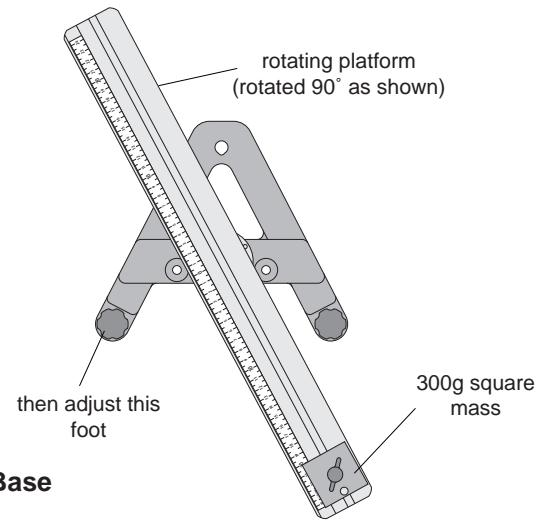

Figure 2: Leveling the Base
- ② Adjust the leveling screw on one of the legs of the base until the end of the track with the square mass is aligned over the leveling screw on the other leg of the base. See Figure 2.
- ③ Rotate the track 90 degrees so it is parallel to one side of the “A” and adjust the other leveling screw until the track will stay in this position.
- ④ The track is now level and it should remain at rest regardless of its orientation.